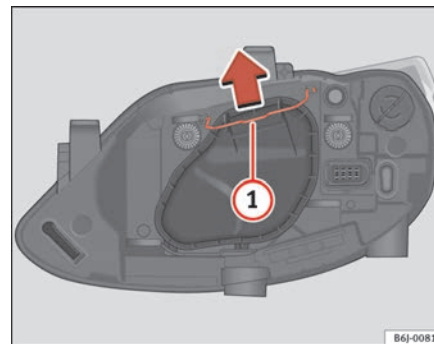

Fig. 152 Dipped beam / main beam, single light
- Remove the loop ⇒ page 222, fig. 152 ① in the direction of the arrow and remove the cover.
- Move the loop ⇒ page 222, fig. 152 ① in the direction of the arrow and remove the cover.